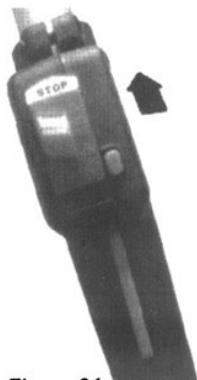

Figure 31
2. Open the choke (Figure 31) and fully depress the throttle trigger with your left hand, then pull the starter handle rapidly with your right hand to clear excess fuel from the combustion chamber.
2. Slide the ignition switch to the "0" or STOP position. See Figure 31.